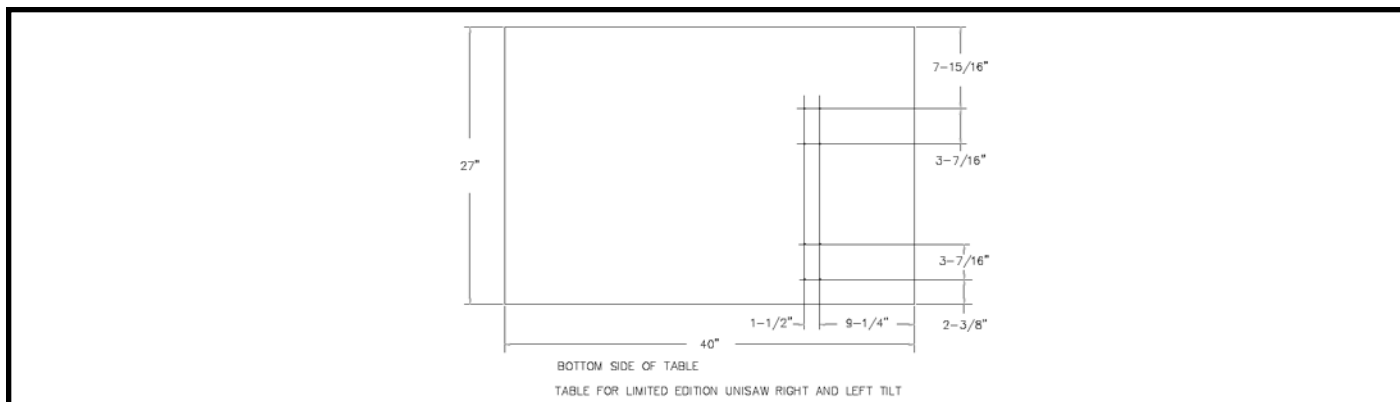

Fig. 33
1. Fig. 33 shows the hole location for mounting the Unifence table legs to the table board.